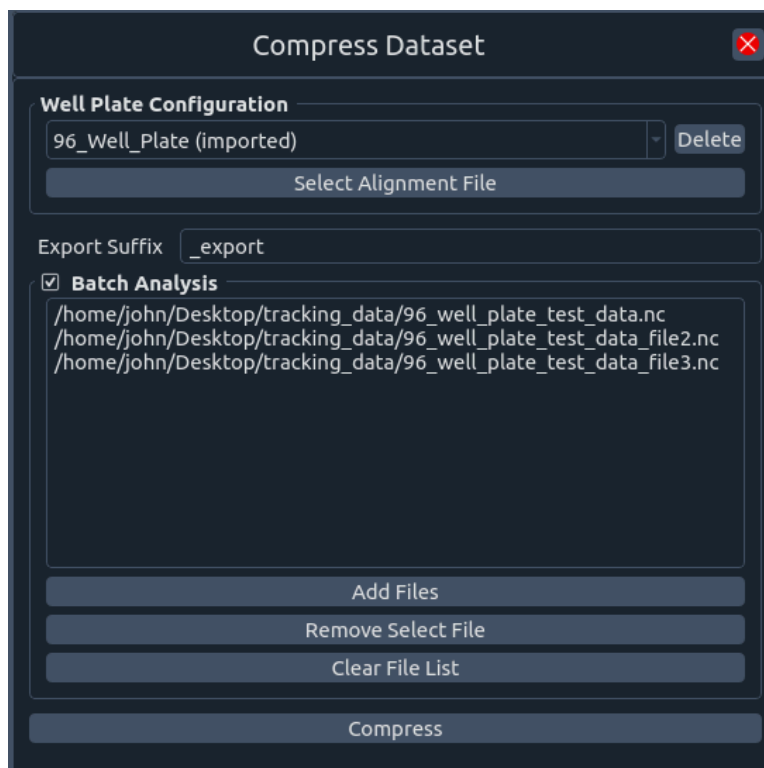

Fig 38: Batch analysis option within video compression.
- 4) Multiple files can be compressed at once by clicking the “Batch Analysis” checkbox and adding more files to the queue. **Note that all files to be compressed in a batch must share the same well alignment file (Fig 38).**